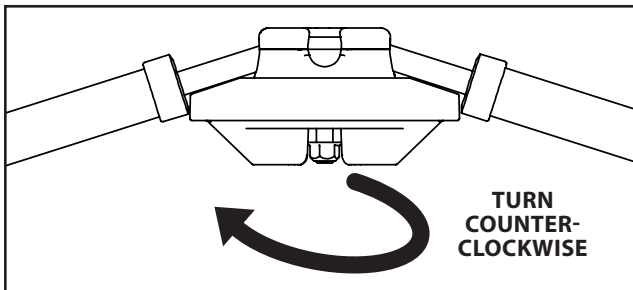

FIGURE 14A - LOCKED POSITION
3. Unscrew the roof lock fully by rotating counter-clockwise until it hits nut on bottom of bolt. **SEE FIGURE 14A & 14B.**